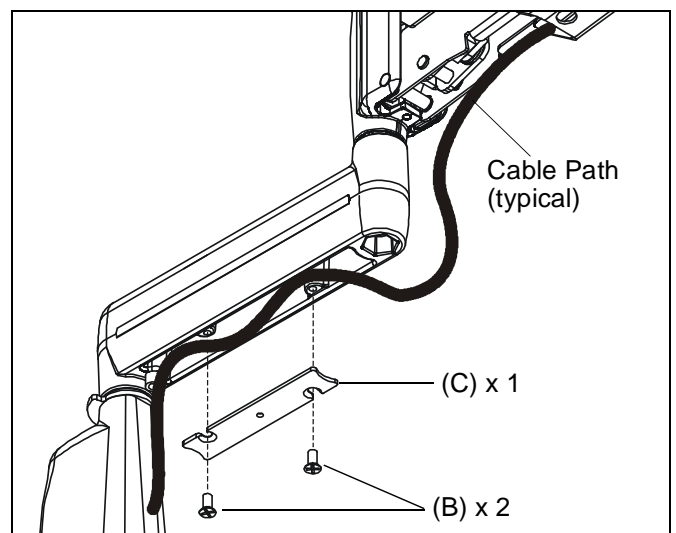

Figure 7:
5. Carefully insert cables in cavity located in lower portion of mount arm (See Figure 7).
6. Using Phillips screwdriver, install cover (10) with two screws (20). (See Figure 7)